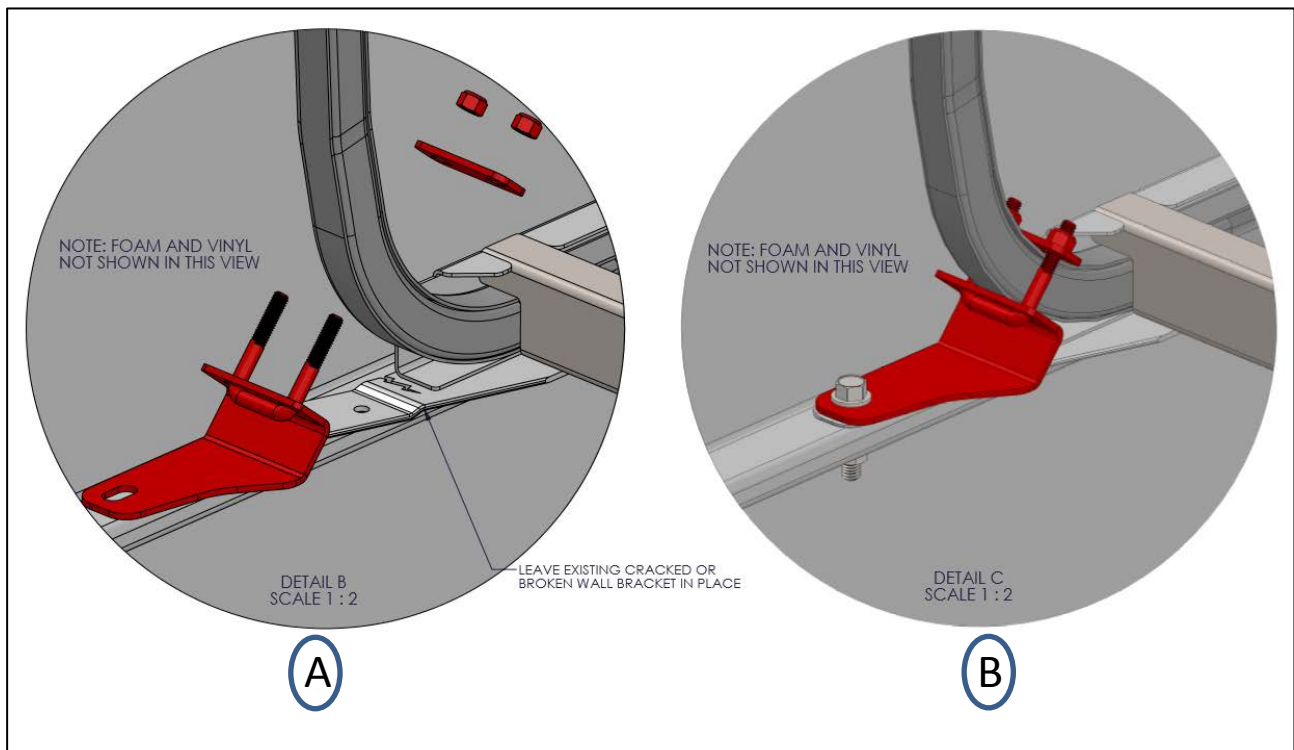

Figure 3: Addition of the New Bracket
5. Place the new bracket over the existing, broken bracket and install the seat rail nut and bolt. (Reposition the broken piece to its original placement.) Do not tighten at this point. See **Figure 3, Item A**.
6. Install the U-bolt, plate, and nuts. Using a 1/2 inch socket, tighten to 5 lbf-lbs See **Figure 3, Item B**.